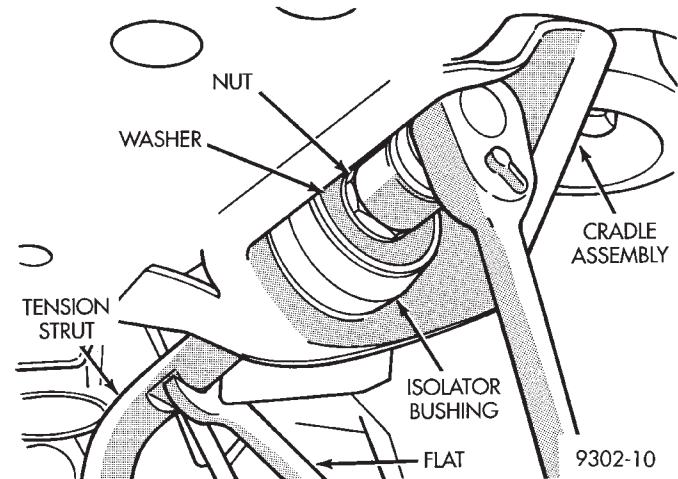

Fig. 3 Tension Strut To Cradle Mounting
(5) Remove tension strut to cradle attaching nut and washer from end of tension strut (Fig. 3). When removing tension strut nut, keep strut from turning
by holding tension strut at flat using open end wrench (Fig. 3). **Discard tension strut to cradle retaining nut. A NEW tension strut to cradle nut must be used when installing tension strut.**
(3) Install washer on end of tension strut (Fig. 3). Install a **NEW** tension strut to cradle bracket nut, on tension strut (Fig.3). Torque the tension strut to cradle bracket retaining nut to 175 N•m (130 ft. lbs.). When torquing tension strut nut, keep tension strut from turning by holding tension strut at flat using an open end wrench (Fig. 3).